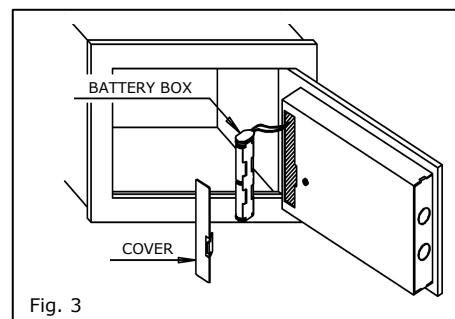

Fig. 3
1. Open the safe and take the battery case out of its housing by simply removing the plastic top that covers it (see Fig. 3).